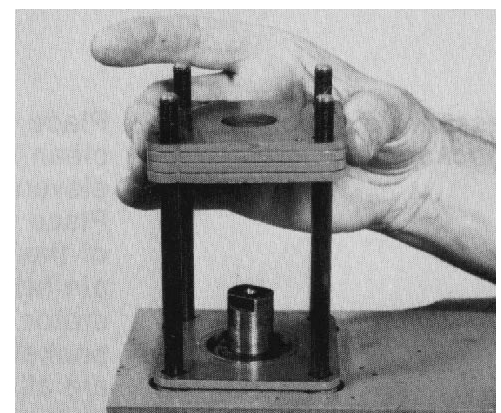

Figure 69
7. Install the upper cover plate over the four bolts with the highly polished surface up (Fig. 69).